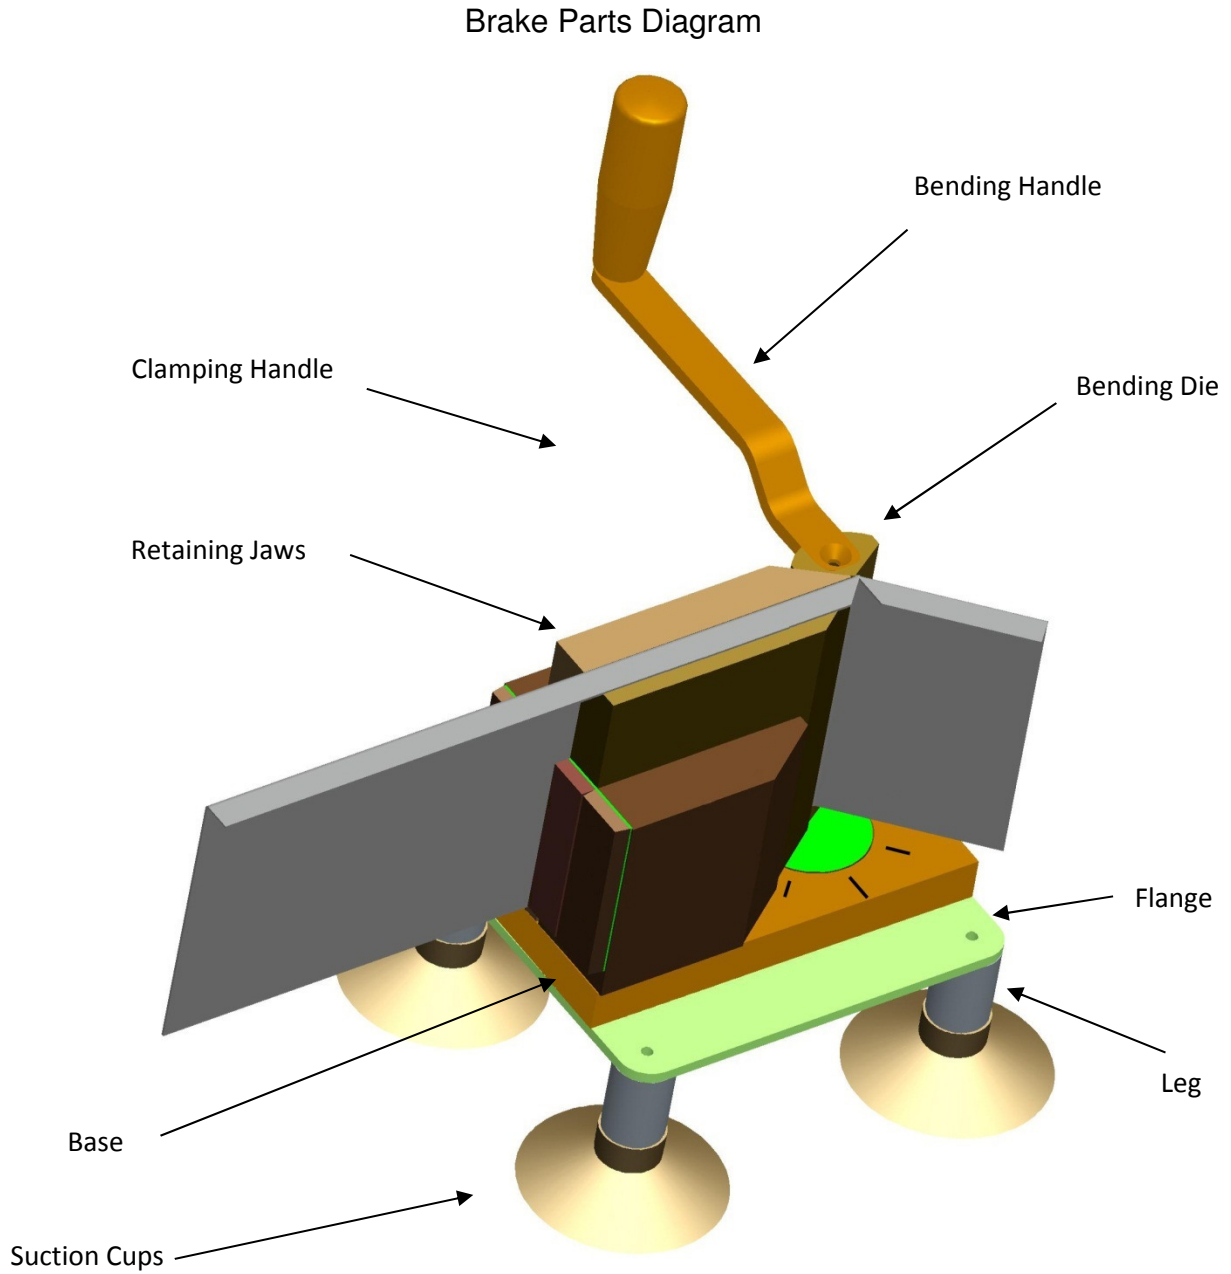

Figure 3
1. Package contents: the SLW Brake, Bending Handle, mounting hardware, mounting template and User Guide. Refer to Figure 3 for parts identification.
The brake's Flange Plate (see Figure 3) has threaded 1/4"-20 holes for installation. The installation kit includes a mounting template, four 1/4"-20 machine bolts & four 1/4"-20 washers. Additional spacers, washers or longer bolts (not provided) may be required for your particular installation.